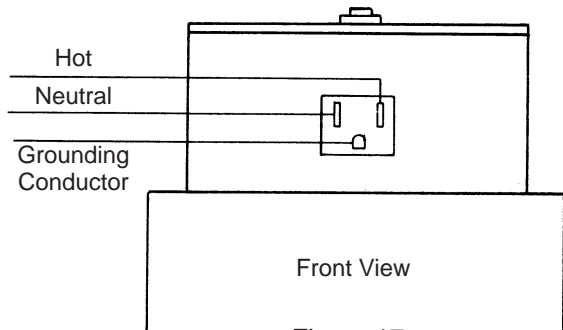

Figure 17
- Remove junction box cover and install the required bushing into the 3/4 in. Knock out. With the supply voltage turned off, route three (3) wires into junction box for connections. (See Fig. 17.)